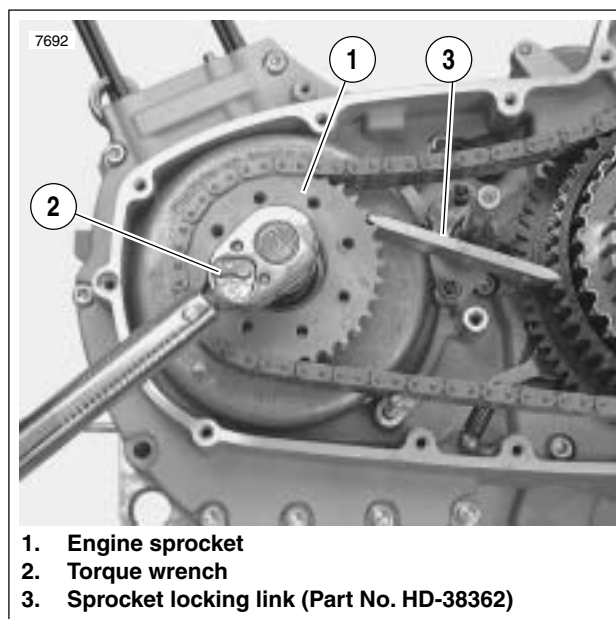

Figure 6-21. Sprocket Locking Link
2. See Figure 6-21. Install the engine sprocket nut.